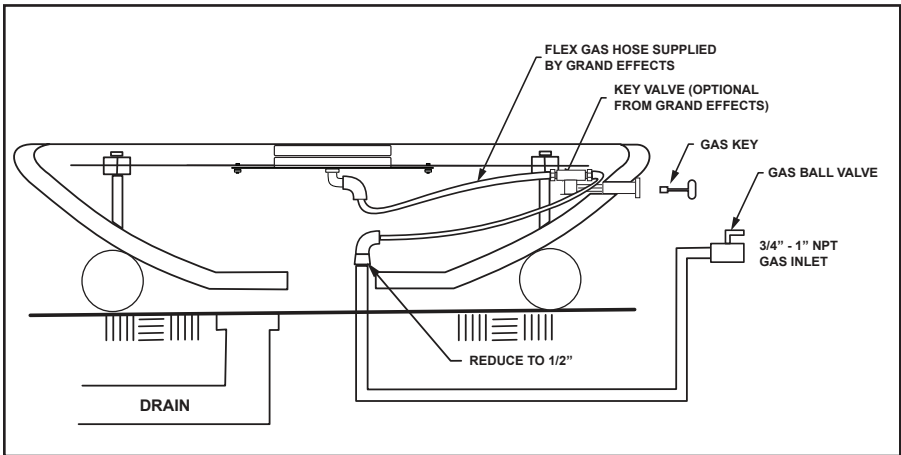
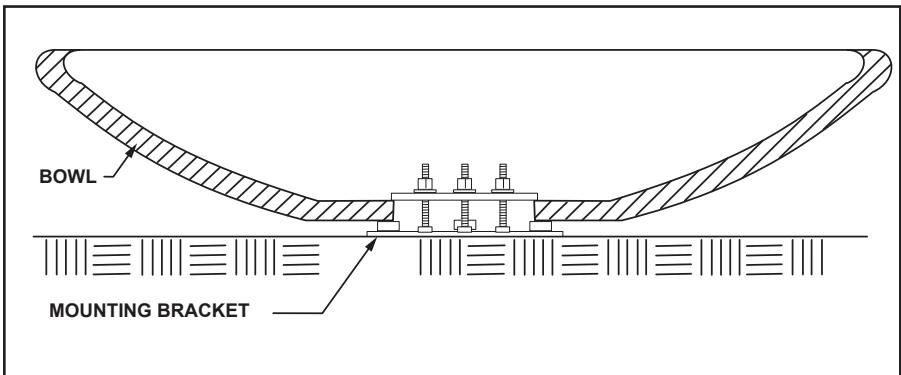

Figure 1. Fire Pit with Internal Key Valve
Figure 2. Fire Pit with Mounting Bracket
1. Install the following Grand Effects Fire Pit (42"- 60"Biltmore) as shown in Figure 1 or Figure 2.
4. The gas piping must be installed underground between each bowl, as shown in Figure 1.
5. The piping must be reduced to ½" NPT or larger at the burner, as shown in Figure 2.
8. Install 90° pipe elbow and gas hose at the gas connection as shown in Figure 2
1. The height of the flame can be adjusted at each burner by opening or closing the ½" gas valve or keyed valve as shown in Figure 1.